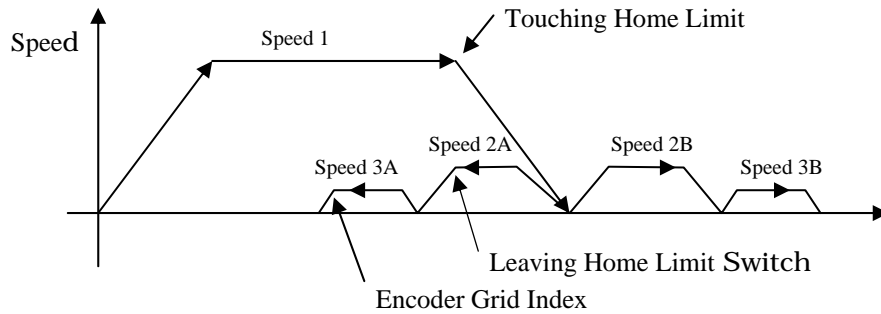

Fig 8.2 Tool's moving speed when searching for HOME location
HUST H2N CNC has three (3) different speeds when execute HOME as shown in Fig 8.2.